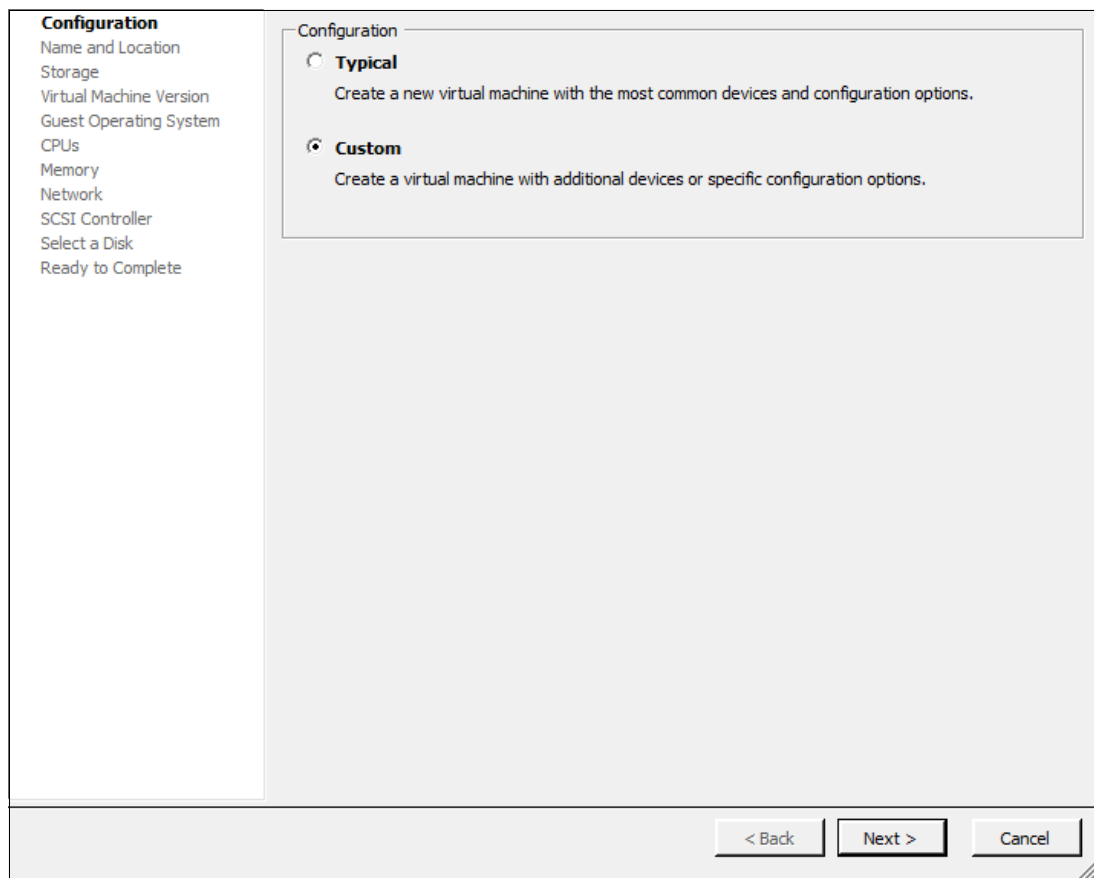

Figure 3-4 Use custom type configuration
2. On the Configuration panel, choose **Custom** and click **Next** (Figure 3-4).